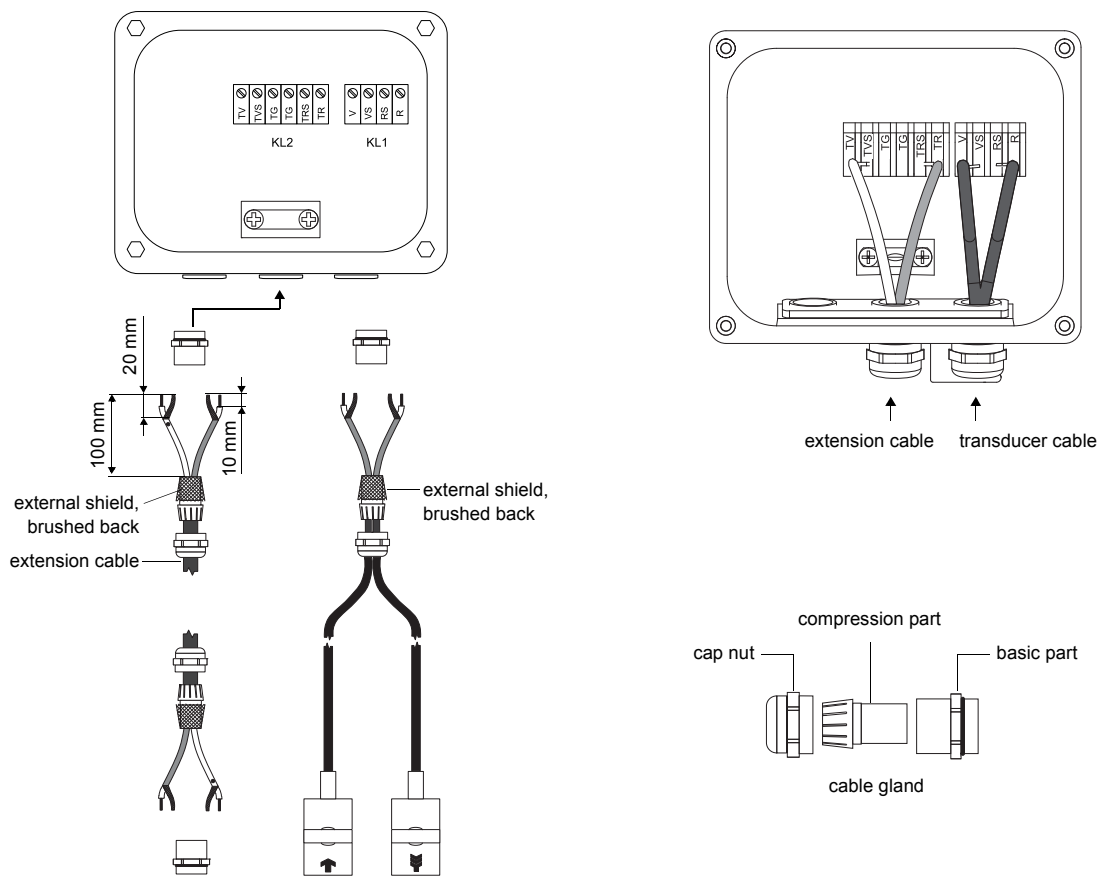

Fig. 6.7: Connection of the extension and transducer cable to the junction box JB01
- Remove the left blind plug for the connection of extension cable (see Fig. 6.7).
- Connect the extension cable to the terminals of the transmitter (see Fig. 6.7 and Tab. 6.2).
For the terminal assignment of the transducer cable see Fig. 6.7 and Tab. 6.5.